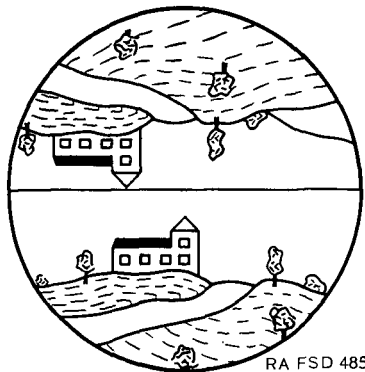

FIGURE 57.—Range finder field of view, incorrect halving.
*c. Test and adjustment.*—(1) *Halving line.*—Incorrect adjustment of the halving line is indicated by failure of the corresponding points on inverted and erect images to fall on the halving line (fig. 57). To